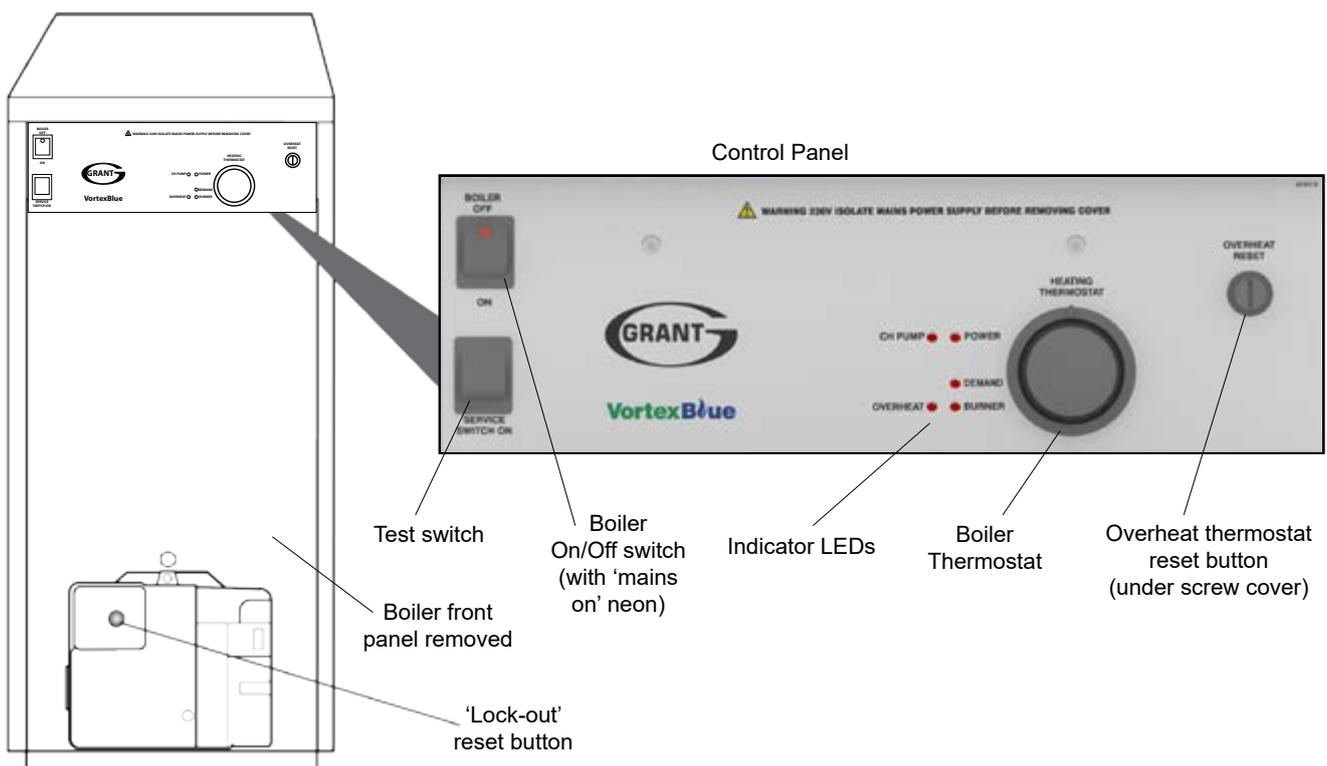

Figure 1-1: VortexBlue External boiler control panel and reset button
Grant VortexBlue External Module boilers have a 'mains on' neon, see Figure 1-1, which lights when the boiler is switched on.
To gain access to the boiler controls, remove the front casing door by turning the handle at the bottom anti-clockwise, pulling the door out at the bottom and withdrawing it from the casing to reveal the boiler controls as shown in Figure 1-1.
5. Check if the burner 'Lock-Out' reset button on the burner body (refer to Figure 1-1 for location) is lit.
Refer to Figure 1-1 for the location of the control panel within the boiler casing and for the details of the control panel.
To reset the overheat thermostat, unscrew the small plastic cap marked "overheat reset" (see Figure 1-1), press the button and replace the cap.
These 5 red lights, located on the boiler control panel, indicate the operating situation of the boiler. Refer to Figure 1-1 for the position of these lights on the boiler control panel.
A test switch is fitted to the control panel (see Figure 1-1) to allow the Service Engineer to test-fire the boiler without requiring access to the inside of the property.